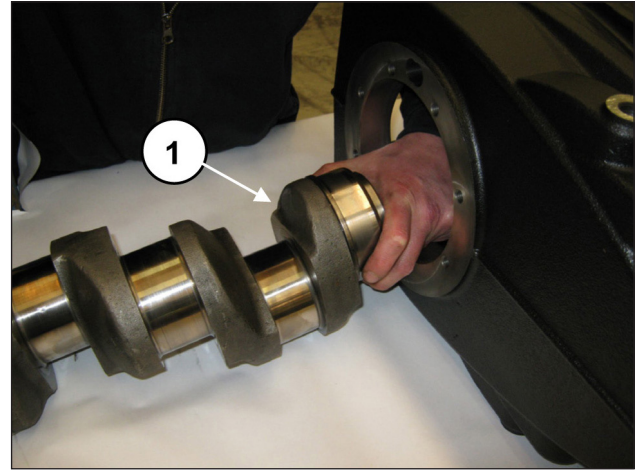
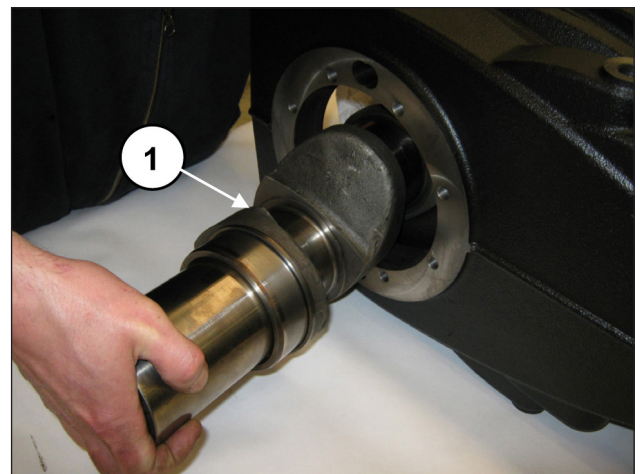

Fig. 47
Fig. 48
Insert the shaft from the PTO side, taking care not to hit the previously assembled con-rod shanks (pos. ①, Fig. 47) and (pos. ①, Fig. 48).